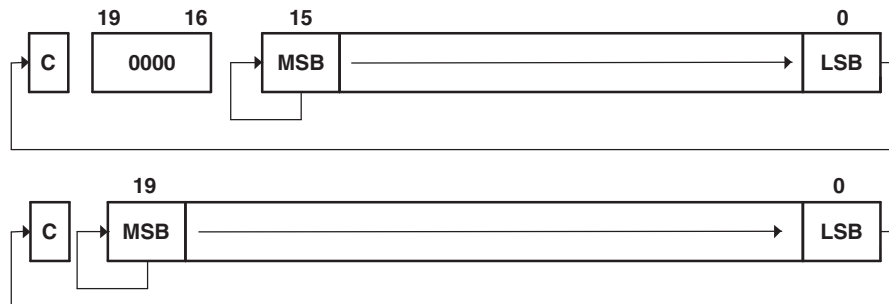

Figure 4-46. Rotate Right Arithmetically RRAM.[W] and RRAM.A
**Description** The destination operand is shifted right arithmetically by one, two, three, or four bit positions as shown in Figure 4-46. The MSB retains its value (sign). RRAM operates equal to a signed division by 2/4/8/16. The MSB is retained and shifted into MSB-1. The LSB+1 is shifted into the LSB, and the LSB is shifted into the carry bit C. The word instruction RRAM.W clears the bits Rdst.19:16.